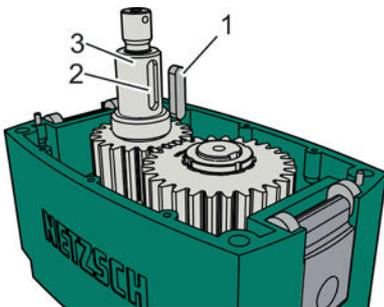

Fig. 142: Inserting the key of the coupling half, example
- 23. ▶ Insert the lightly lubricated key (Fig. 142/1) into the keyway (Fig. 142/2) of the drive shaft (Fig. 142/3).